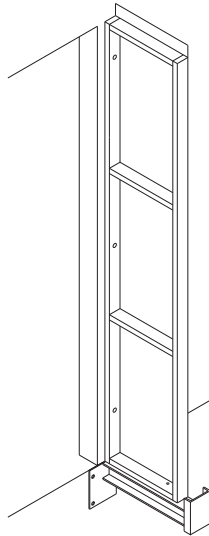

FIGURE 5
Drill through and fasten the side frame to the building wall in a minimum of (3) places per the "Fastening Methods" section of these instructions. See Figure 5.